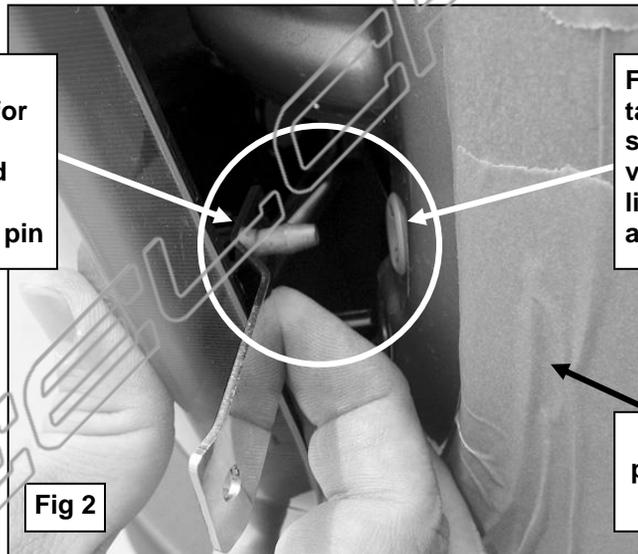

Fig 2
- 2. IMPORTANT!** Cover the painted edge around the taillight housing with masking tape to protect the finish of the vehicle when removing the taillight housing and installing the Taillight Guard, **(Figure 2)**.
- 5.** Attach one of the Support Brackets to the alignment pin located behind the taillight, **(Figure 2)**. Hold the Support Bracket in place as you re-install (gently push) the taillight assembly back onto the vehicle. Take care to properly align the pin with the socket.